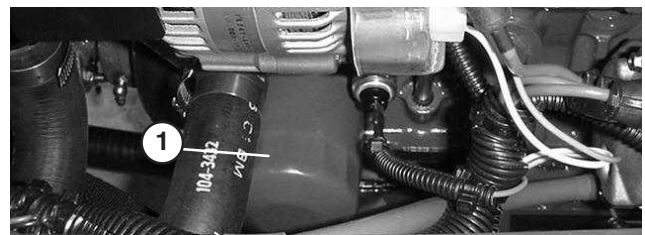

Figure 47
5. Remove and replace oil filter (Fig. 47).